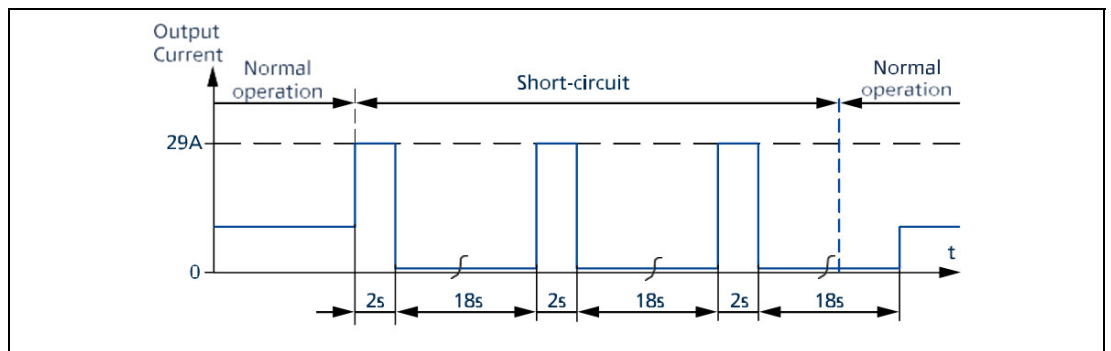

Figure 8.3 Short-circuit on output, **Hiccup** mode, typ.
- ² At heavy overloads (when output voltage falls below 13V), the power supply delivers continuous output current for 2s. After this, the output is switched off for approx. 18s before a new start attempt is automatically performed. This cycle is repeated as long as the overload exists. If the overload has been cleared, the device will operate normally. See Figure 8.3.